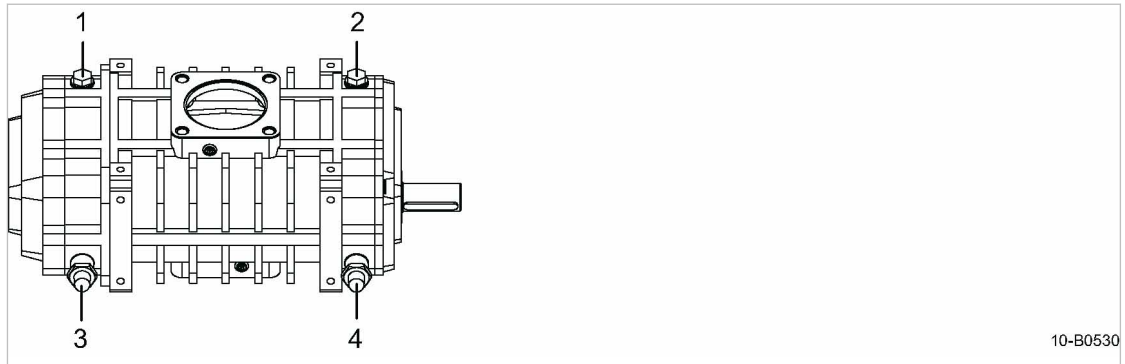

Fig. 30 Replenishing lubricating oil
2. Slowly unscrew screw plugs on the oil inlets on the blower block, positions (1) and (2) from figure 30.
3. Unscrew caps (4), secure against reclosing and ensure that the oil can flow freely.
4. Open oil drain taps (3) and let oil drain out.
3. Close oil drain taps (3).
4. Check the oil level using the oil sight glasses on the gear and drive-end (see figure 30) and fill if necessary.
5. Screw on caps (4).